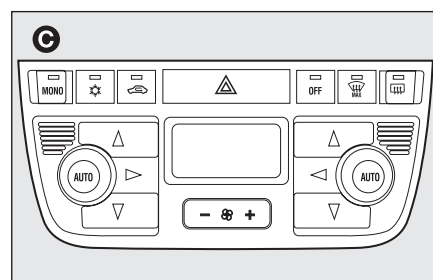

fig. 7
- ☐ with two-zone automatic climate control system **C**-**fig. 7**.